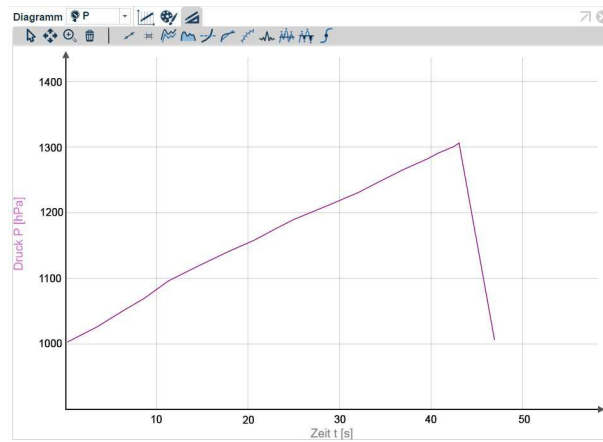

Fig. 3: Measurement result under normal conditions
- Experiment 1:** During the first experiment, the pressure curve rises drastically (Fig. 3). (In the course of the measurement, the curve suddenly drops perpendicularly, which is due to the fact that the rubber stopper was pushed out of the Erlenmeyer flask.)